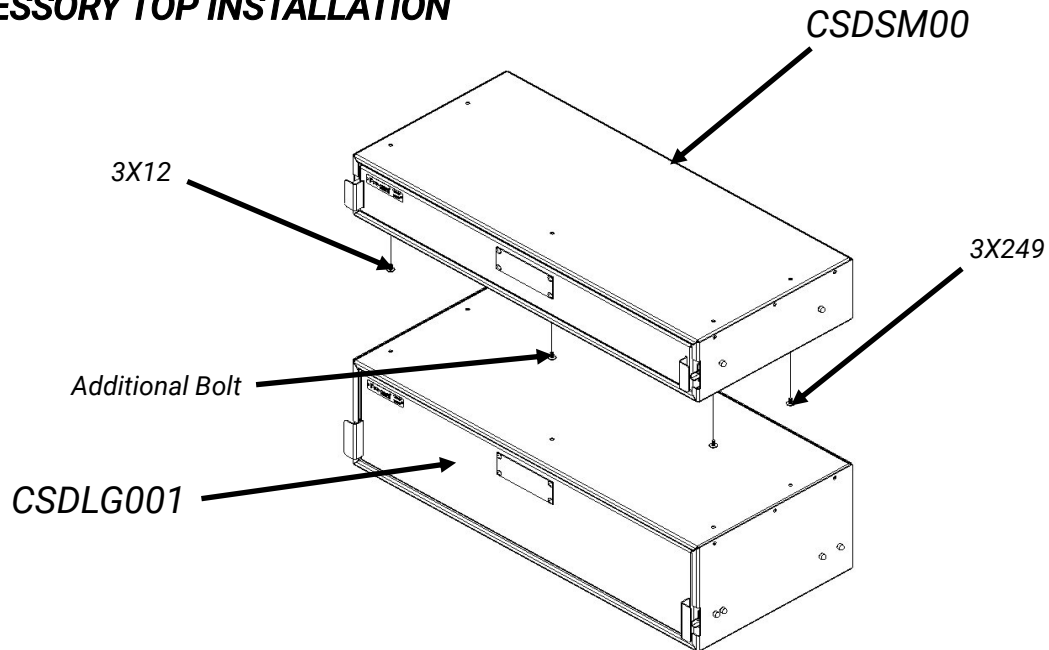

Figure 2
- C. Open bottom drawer to gain access and install bolts (5) 3X12 (1/4 flat washers) and (5) 3X249 (5/16-18 x 5/8" bolts) from the inside of drawer. Stacking drawers requires one additional bolts, located in the center, above the locking mechanism. See Figure 2